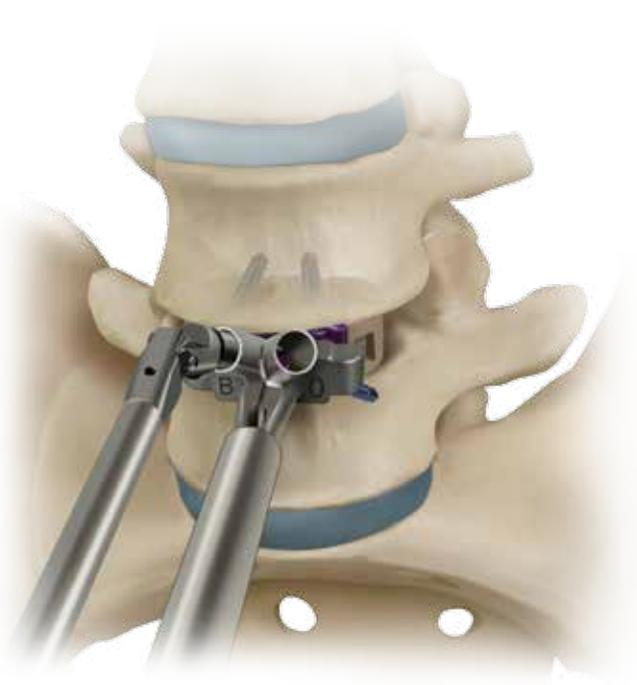

Figure 15:
- Prepare the remaining two screw holes through drill guide B using the drill or awl and insert the screws as described on page 10 (Figure 15).